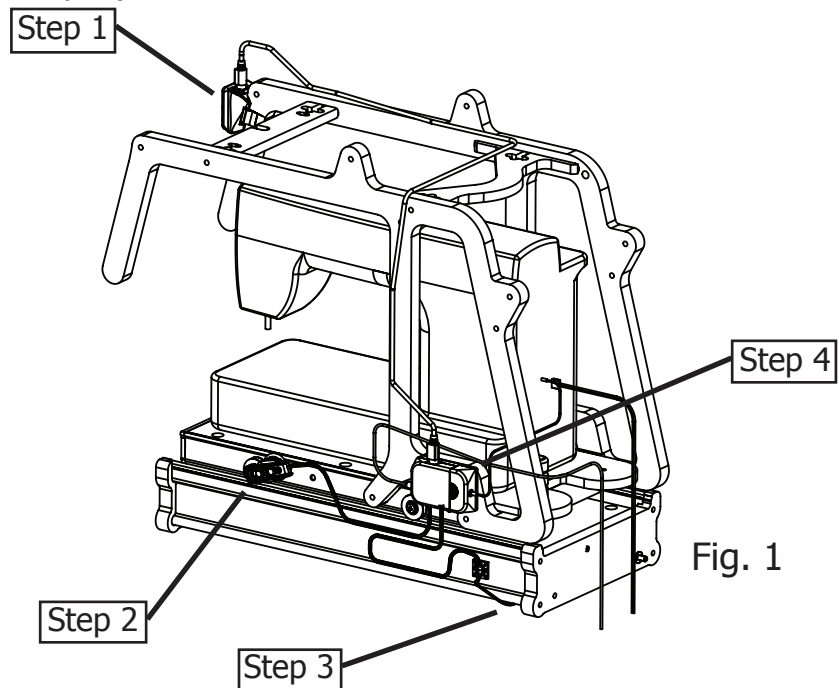

Fig. 1
**2-5:** Apply the Washer, and 6mm nut back onto the bolt. Tighten the nut securely. When you tighten the nut, make sure that the encoders moving parts don't contact any part of the carriage. When the top plate is sitting upright, the encoder should be angled up slightly, so that the encoder's wheel doesn't touch the track on the Bottom Plate. (See Fig. 1).